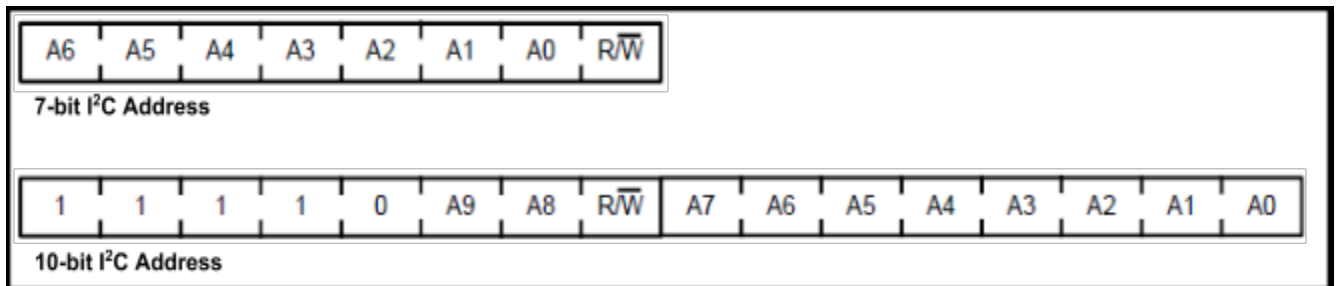

FIGURE 7. 7-bit and 10-bit Read/Write addressing
Once the start signal has been sent we then send a byte of data which contains the address of the slave device we want to talk to bits <7:1> and whether we want to read (bit<0> = 1) or write (bit<0> = 0). Note: The 24LC365 eeprom is a 7-bit address device with an address of 0b1010000 configured on the PICDEM2 board. Figure 7 shows how to send the address and read and write mode for a 7-bit and 10-bit address device.
Retrieving data is much the same way as sending data except that we issue a high (1) to indicate that the master wants to read or retrieve data from the eeprom. The first thing we must do is make sure that the bus is idle, send a **START** then we issue a write to the address we want to read from. Before we write data we issue a **STOP** signal, why? This forces the internal pointer on the eeprom to point at the starting address we wish to read from, then we must issue a **START** signal. We then send the 7-bit address for bits<7:1> and a high for bit<0> (see Figure 7) to tell the eeprom that we want to read. The eeprom will then send the microcontroller (master) a byte of data the microcontroller must follow this with an acknowledge so that the slave knows to send the next byte. Once we got (the microcontroller received) all data needed the master must issue a stop signal.